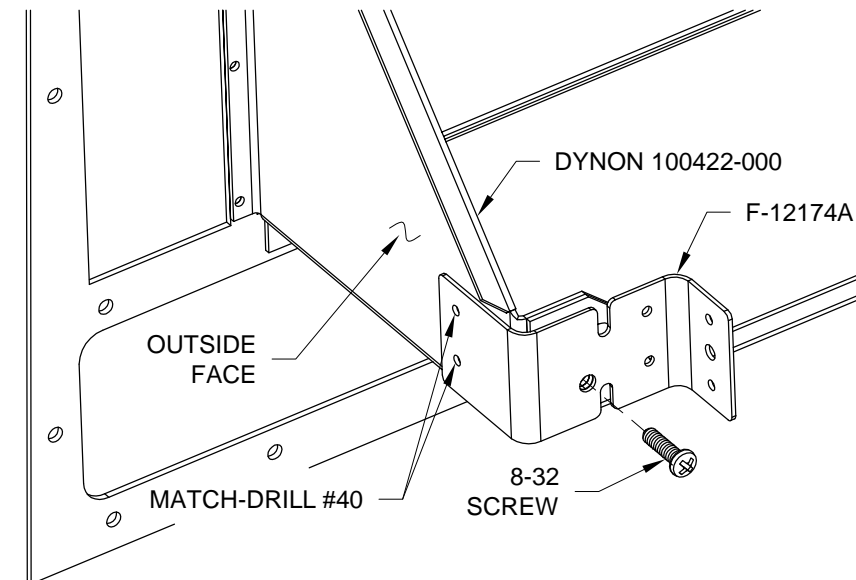

FIGURE 3: MATCH-DRILLING THE TRAY
Step 5: Use an 8-32 screw to align the F-12174A AP74 Mount Bracket as shown in Figure 3. Double check that the AP74 mount bracket pushes up tight against the back and side of the DYNON 100422-000 D-100 Series Mounting Tray as shown in Figure 3. If required repeat Step 4.
Step 6: Match-Drill #40 both holes in the F-12174A AP74 Mount Bracket into the side of the DYNON 100422-000 D-100 Series Mounting Tray as shown in Figure 3. Remove the AP74 mount bracket.